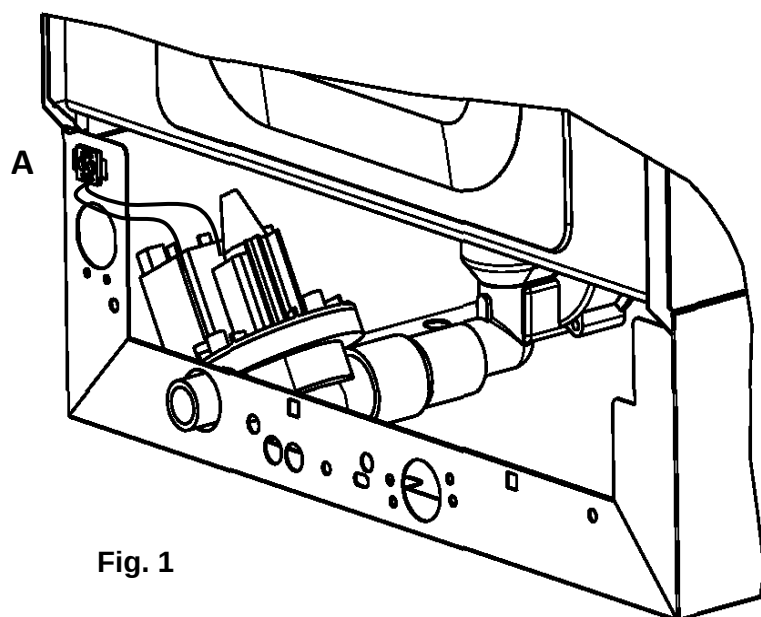

Fig. 1
- Montare circuito idraulico come da schema. **Fig.1**
- Assemble the hydraulic circuit as indicated in the figure. **Fig.1**
- Den Wasserkreislauf nach Plan montieren. **Fig. 1**
- Installer le circuit hydraulique conformément au schéma. **Fig. 1**